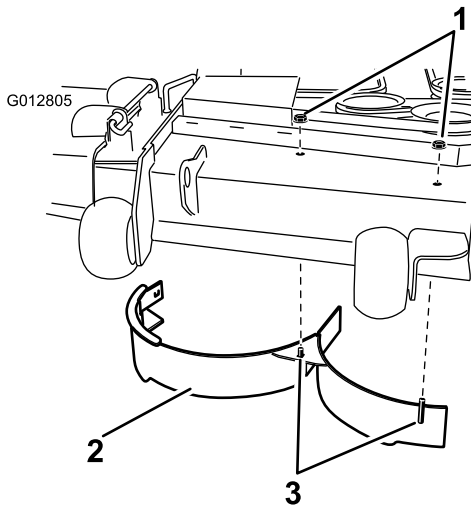

Figure 34
10. Remove the two locknuts (5/16 inch) to securing the welded posts of the right baffle to the top of the mower deck at center and right of center positions (Figure 34). Remove the right baffle from the mower deck.